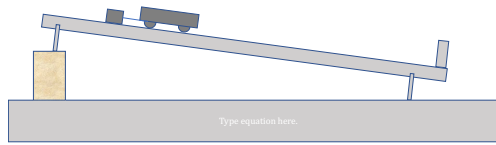

Figure 1 Experimental setup
9. Now attach the friction block to the cart as shown in Figure 1.